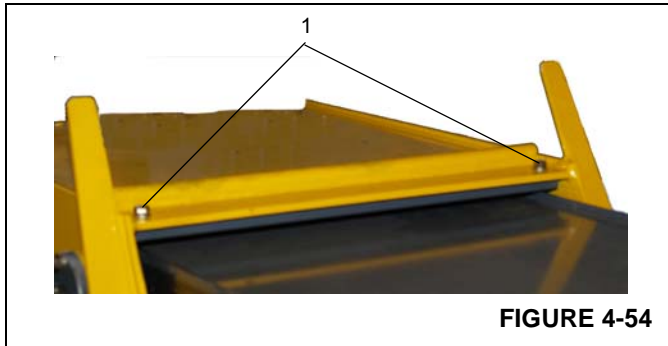

FIGURE 4-54
18. Install kickback plate with hardware (Figure 4-54, 1) on inside top of Outer Mid section.